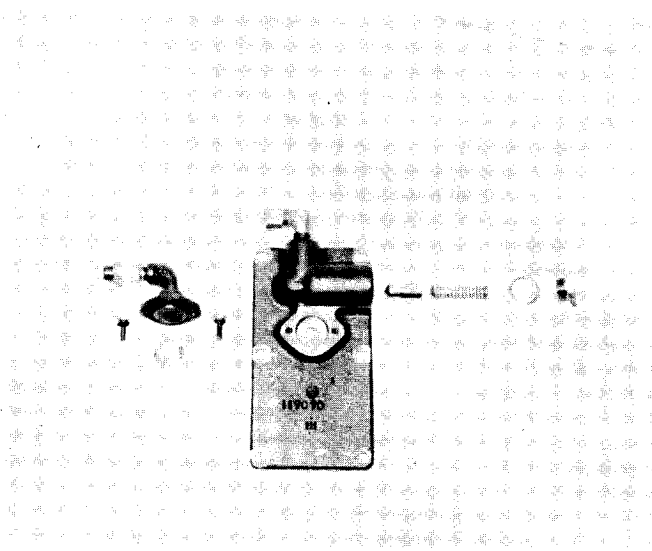

Fig. No. 9
The cover, relief valve parts and orifice plate parts shown in Fig. No. 9 can now be removed for inspection. The parts shown in Fig. No. 9 have been replaced by new and improved parts. If the cover on the unit is assembled with a sleeve, spring and plunger or is assembled with a sleeve, spring and ball, it is strongly recommended that the parts checked (X) in the chart on page 20 be ordered and installed according to "PAYLOADER" Model and Serial Number. Installation of the parts listed in the chart eliminates the 119094 Flange, 108013 Capscrews, 119096 Orifice Plate and 119095 Gasket. (Refer Fig. No. 7) There is an orifice drilled in the 135311 and 138532 covers.
2. Plan to replace all seals and gaskets when reassembling. This includes the small cast iron piston ring type seal on the output shaft and the four (4) Dynaseal washers used with the pump body bolts in the reservoir housing assembly.
3. The pump should not be serviced in the field. Replace with new unit and send the used pump to the factory for rebuilding. (See Fig. No. 9).